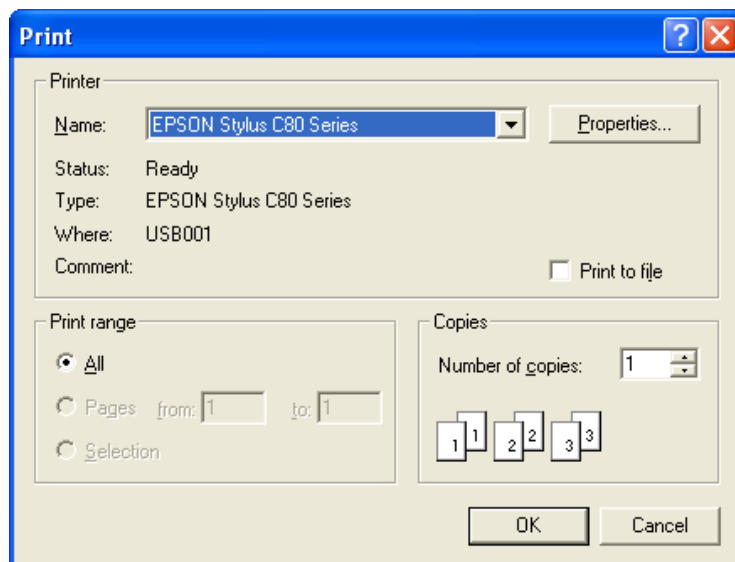

Figure 6-7 Print dialog
1. Click the **Print** button on the **Standard** toolbar. The Print dialog displays. See Figure 6-7.